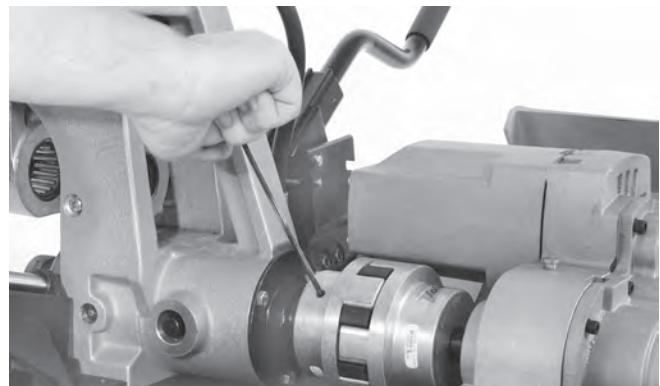

Figure 23 – Loosen the Two Screws on the Transmission Coupling
- Use 3/16" hex key to loosen the two screws on the front half of the transmission coupling (*Figure 23*).
3. Use 3/16" hex key to loosen the two screws on the front half of the transmission coupling (Figure 23).